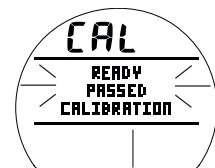

Fig. 94 - CAL PASSED
- > Once fully formed, the circle will be replaced with the graphics READY PASSED CALIBRATION (Fig. 94) or FAILED CALIBRATE AGAIN, flashing for 3 seconds, then -